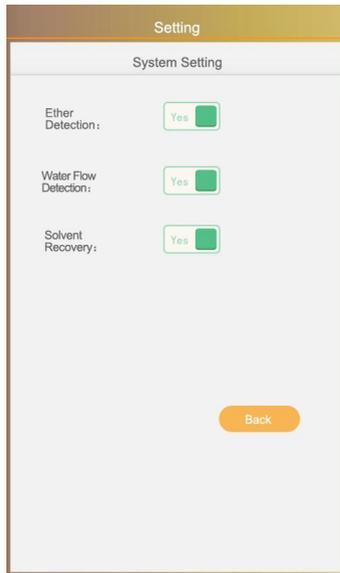

Figure 19
4.2.4.2 Choose [System Setting] item for entering the interface as shown in figure 19, display the working status of the functions of ether detection, water flow detection and automatic recovery